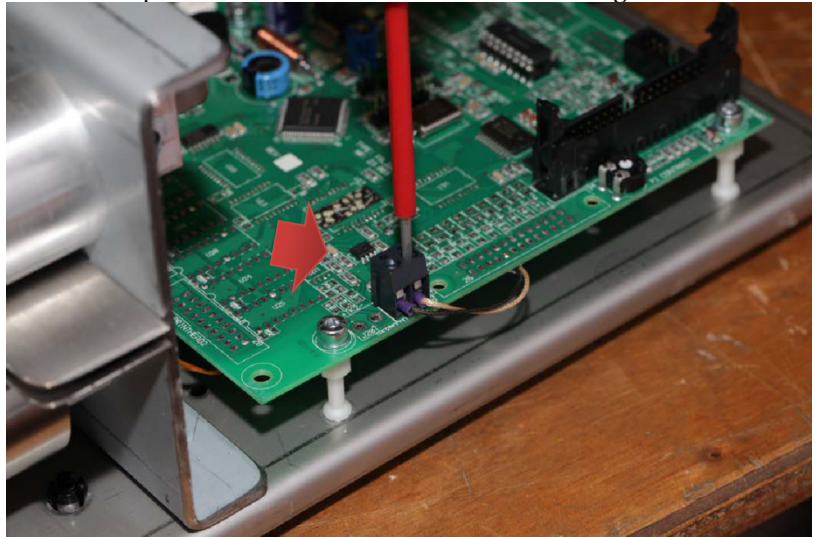

Figure 6
6. The thermocouple wires can be refitted as shown below. **Fig. 6**